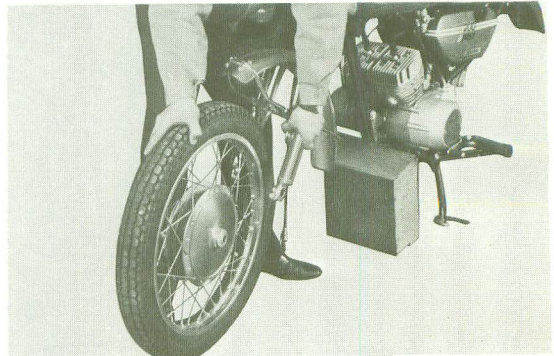

Fig. 5-1-6
- (5) Remove the front wheel ass'y (Fig. 5-1-6)